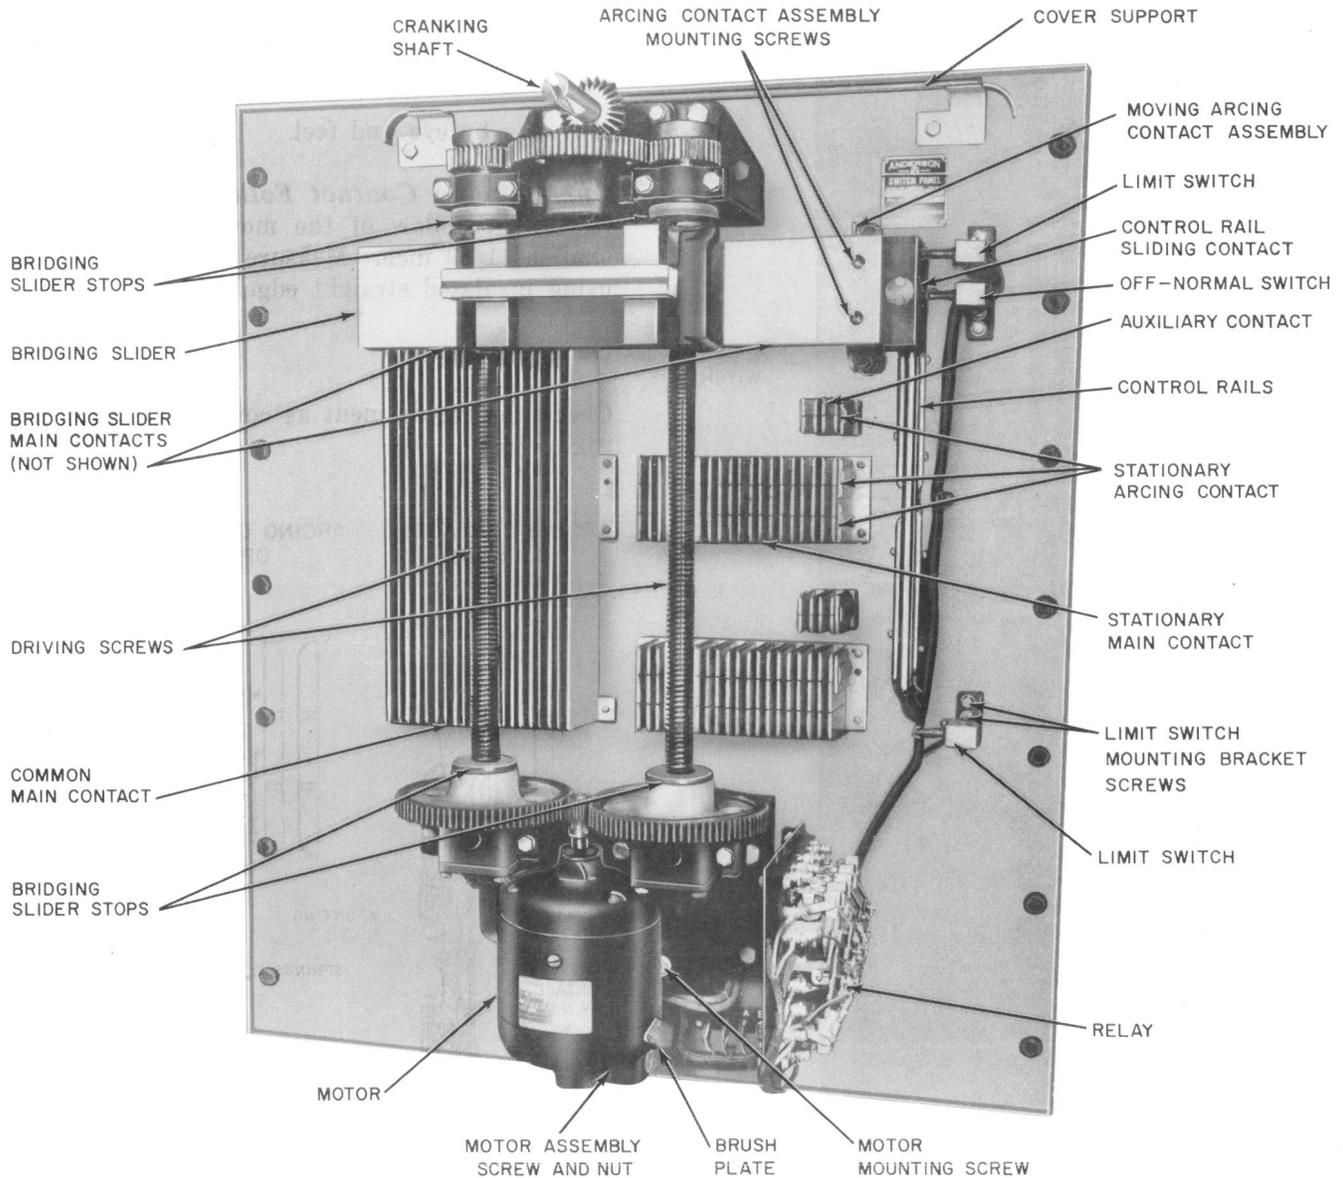

Fig. 1—KS-15624 L4 Switch Panel (Cover Removed)
- (a) **Contact Surfaces of Main Contacts, Auxiliary Contacts, and Knife Switch Contacts:** Fig. 1 and 2—The contact surfaces of the main contacts, auxiliary contacts, and where provided, the knife switch contacts shall be cleaned and then lubricated with a thin film of petrolatum. These surfaces should be cleaned and relubricated every 6 months unless examination indicates interval may be extended (2.01).
**2.04 Mounting of Contacts:** Fig. 1 and 2—All contacts shall be securely fastened to their mounting.
**2.05 Condition of Contacts, Clips, and Blades:** Fig. 1 and 2
**\*\*2.06 Engagement of Movable and Stationary Main and Knife Switch Contacts:** Fig. 1 and 2
**\*\*2.20 Mounting of Limit Switches and OFF-NORMAL Switch:** Fig. 1 and 2—
**\*\*φ2.21 Operation of Limit Switches:** Fig. 1 and 2